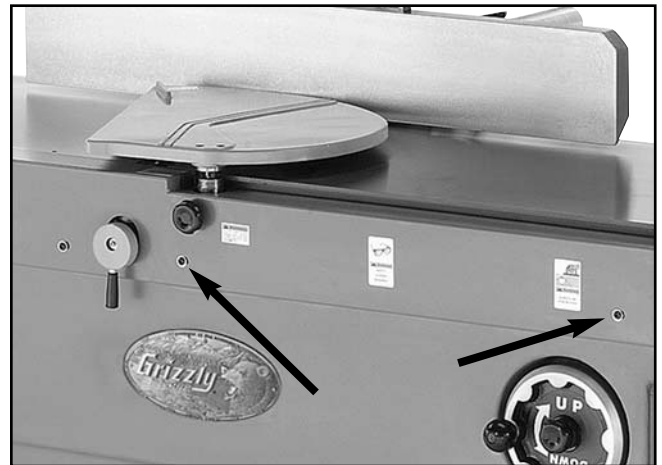

Figure 38. Hex bolts and flat washers used to secure the front eccentric cover to the jointer base.
1. Remove the four hex bolts and flat washers (**Figure 38**) that secure the front eccentric cover to the jointer. Carefully remove the front eccentric cover and set it aside.